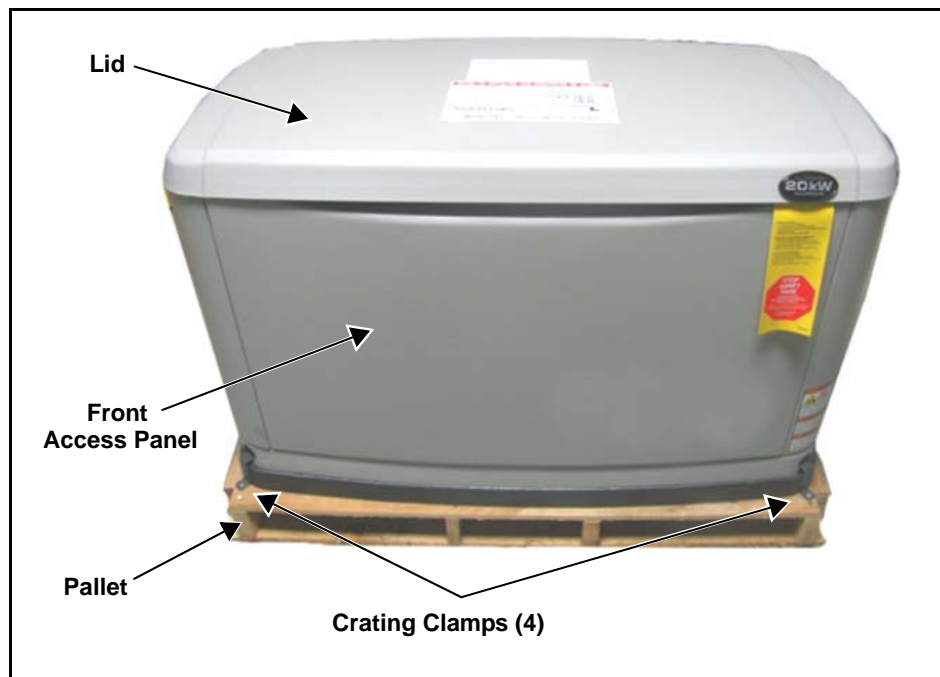

Figure 2-2. Remove Crating Clamps
4. Remove **four** bolts with crating clamps. Carefully lift the generator off the wooden pallet. Do **NOT** drag the generator off the pallet or damage to the base will occur. See Figure 2-2.